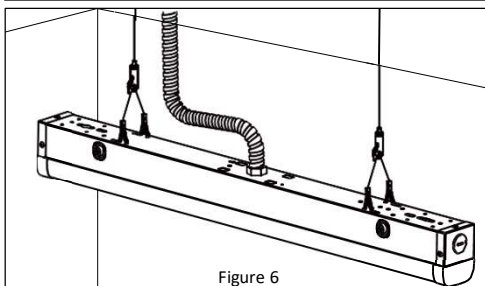

Figure 6
11. Close the fixture by carefully pushing the lens into the body of the fixture making sure not to pinch any wires. **See Figure 6**.